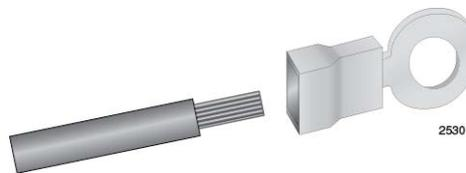

Figure 106. Attaching the Stranded Grounding Wire to the Grounding Terminal
2. Insert the grounding wire into the grounding terminal provided with the power supply and use a crimping tool to secure it to the grounding terminal. See Figure 106.